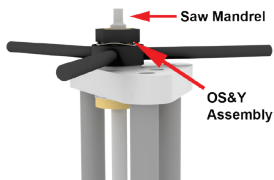

Figure 33
**3.7.3)** Tighten the clamp lever in the packing nut when the cutter and pilot drill are completely inside of the installation housing. The hexagon end of the saw mandrel should be at or near the OS&Y Assembly (see Figure 33).